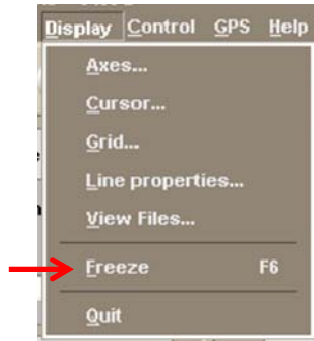

Figure 3-45: Select Freeze
- Select “Freeze” (Figure 3-45) or use keyboard command [Alt+D, F].